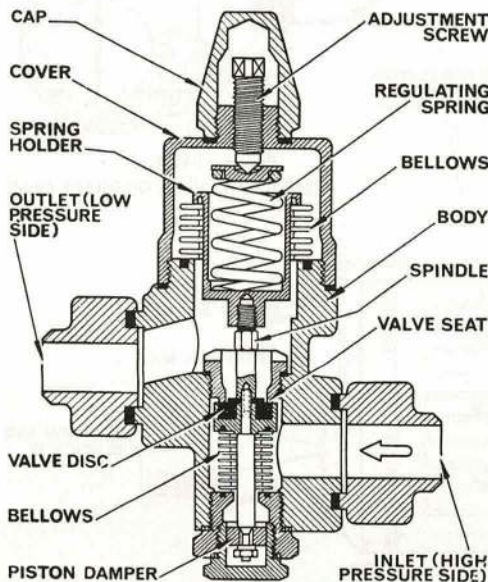

Fig. 9. CAPACITY CONTROL VALVE
42. **Capacity Control Valve.** The capacity control valve (Fig. 9) is another regulating device that is used in the refrigeration system. Its purpose is to limit the temperature to which the air delivery can be reduced, thus preventing freezing and the formation of obstructive ice in the evaporator. This minimum temperature as shown on the outlet thermometer is 40 deg. F. The valve is